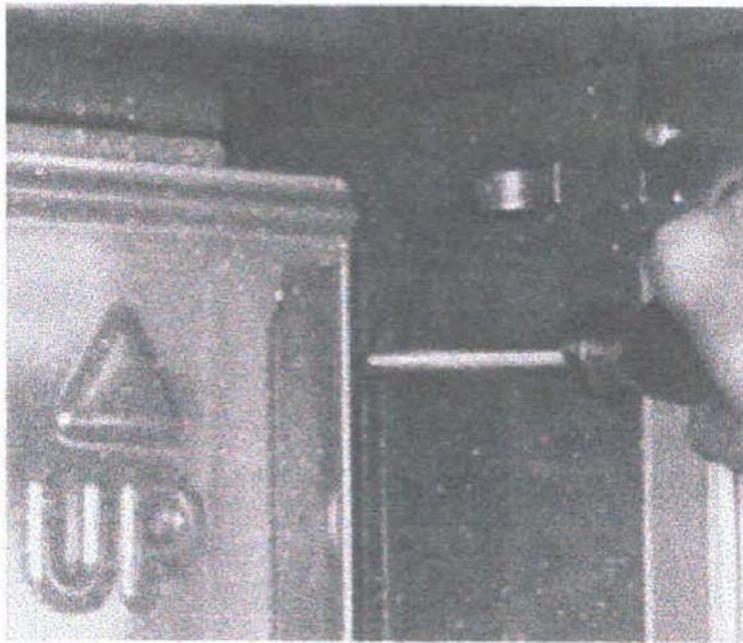

Figure 6-5. Blower Wheel Cover Removal
2. Remove blower wheel cover by loosening four screws located at each corner and pulling cover forward. See Figures 6-5 and 6-6.